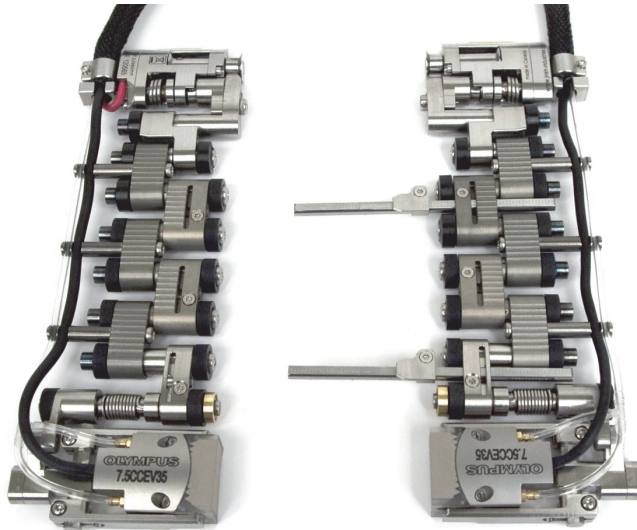

Figure 2-20 Separating the two halves of the scanner
3. For single-probe scanning, you need to separate the two halves of the scanner (see Figure 2-20 on page 47):